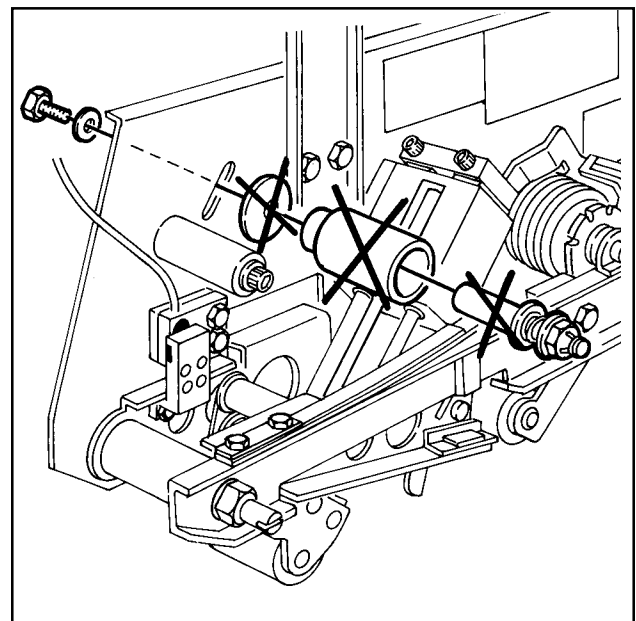

Figure 2-20
- Remove the 1/4-20 hex head screw that fastens the tension roller shaft to the taping head side plate, remove the tension roller/shaft assembly and discard. See Figure 2-20.